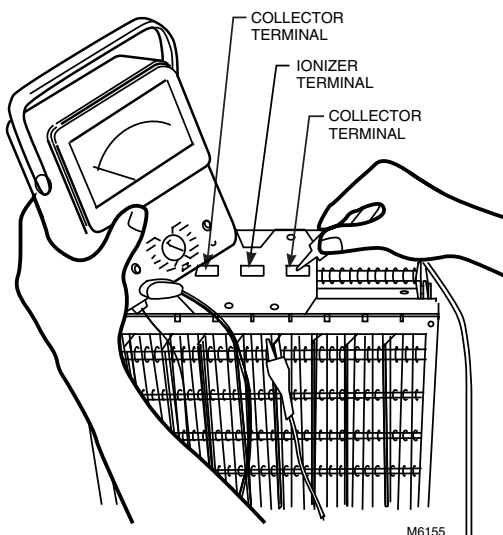

Fig. 16. Use an ohmmeter to check the cells for short circuits.
3. Check the cell for short circuits using an ohmmeter. See Fig. 16. Check the resistance between the frame of the cell and both the ionizer and the collector contacts. In each case, the resistance should be infinite.